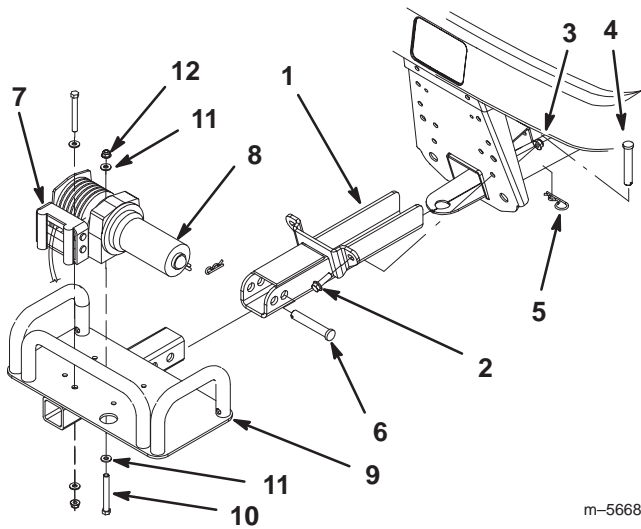

Figure 5
- Attach the roller fairlead to the winch and winch mount with 2 bolts (5/16 x 3 in.), 4 flat washers (5/16 in.), and 2 locknuts (5/16 in.) (Fig. 5).
Note: The rear bolt must be inserted through the bottom of the winch mount and the front bolt must be inserted through the top of the roller fairlead plate (Fig. 5).
4. Slide the receiver assembly into the front channel and attach it to the front of the frame with 2 bolts (3/8 x 1-1/4 in.) and 2 locknuts (3/8 in.) (Fig. 5).
5. Secure the receiver to the frame channel with the clevis pin (1/2 x 3 in.) and hairpin cotter (Fig. 5).
6. Slide the winch mount into the receiver and secure it with the clevis pin (5/8 x 3-1/2 in.) and hairpin cotter (Fig. 5).